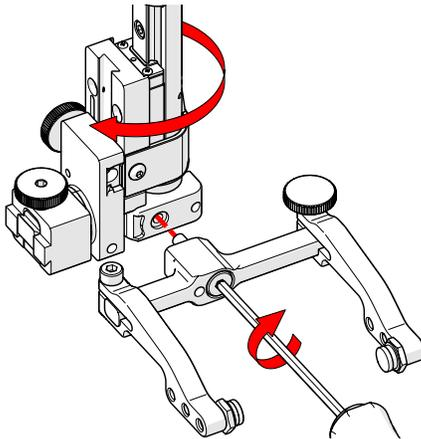

Fig. 63 - Screw yoke to opposite side
6. Mount the yoke to the opposite side of the base using the supplied 3 mm hex driver (Fig. 63).